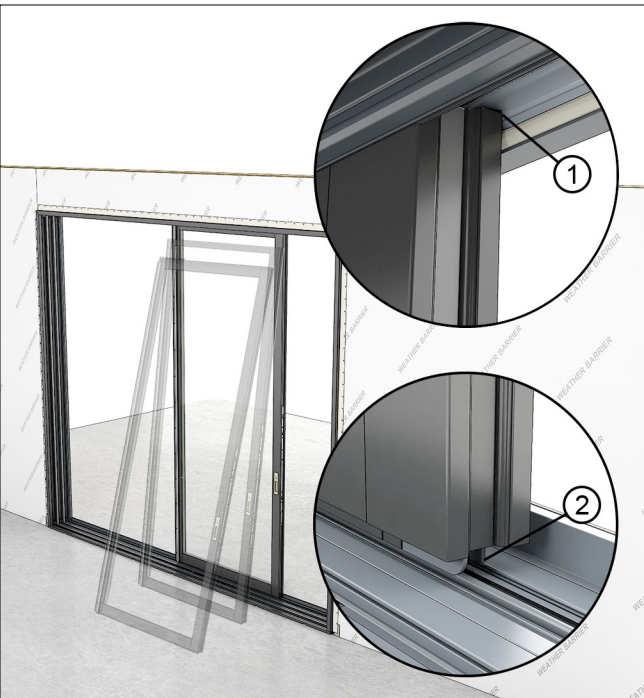

Figure 75
1. Install the primary operating panels or inactive panels first. Lift the top of the panel into the interior most head jamb track. Then swing the bottom over the sill track until centered over the roller guide. Set the panel gently onto the guide. See Figure 75.